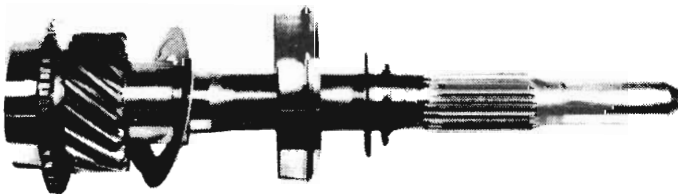

Fig. 24 - Maindrive sub-assembly
(1) Fit oil slinger (60), maindrive bearing (4) (H.D. transmissions use special bearing), spacer (44) and third speed synchronizer blocker ring to the maindrive. (Refer Fig. 24). Select a snap ring (45) to keep end float to a minimum within limits .000 to .004 inches and assemble it to the bearing. Install fourteen needle roller bearings (8) (standard transmissions) to the maindrive (1).
**NOTE:** Pacer and H.D. transmissions use 15 needle roller bearings (8).